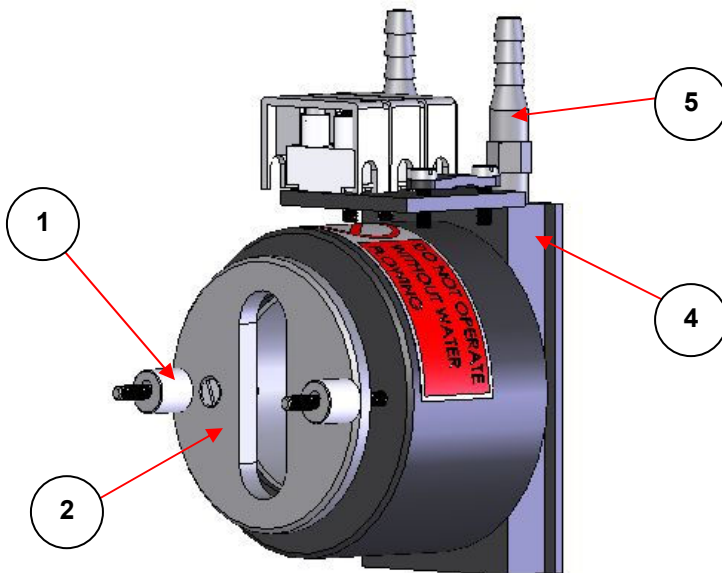

Fig. 1 Electrical Heating Jacket assembly (power cable and thermocouple not shown)
1. Unscrew the quick fit nuts (1) (Fig. 1) and remove the cell retaining front clamp plate (2) of the Electrical Heating Jacket.